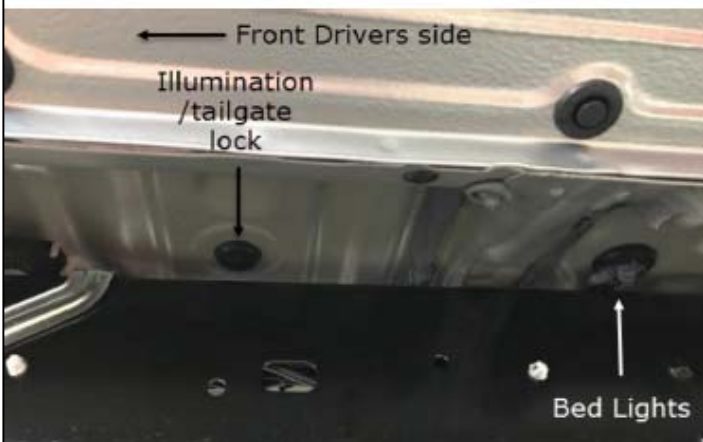

Figure 19
19. Secure excess bed light LED wire harness to OE Factory harness using wire ties in the location near the grommet. See Figure 19.